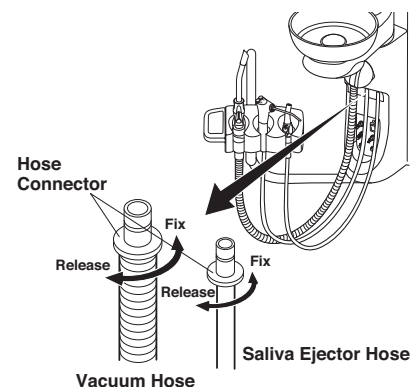

Fig.5-9 Vacuum and Saliva Ejector Hose
- 1-3. Vacuum hose and saliva ejector hose are detachable from the cuspidor unit.(Fig.5-9) Turn the hose connector 90° counterclockwise the hose can be removed from the cuspidor unit. Insert the hose connector and turn through 90° clockwise to reconnect. Note: After daily operation, run two cup of clean water through handpieces to clean inside.